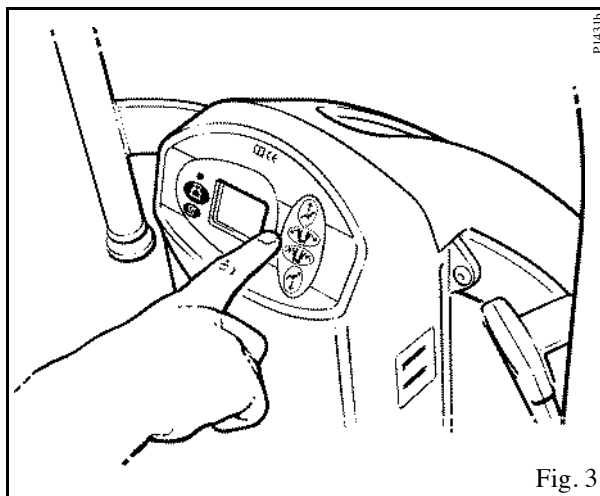

Fig. 3
**Dual control panel:-** offers the same controls as the handset and is conveniently positioned on the top of the main body of the lifter (See Fig. 3).